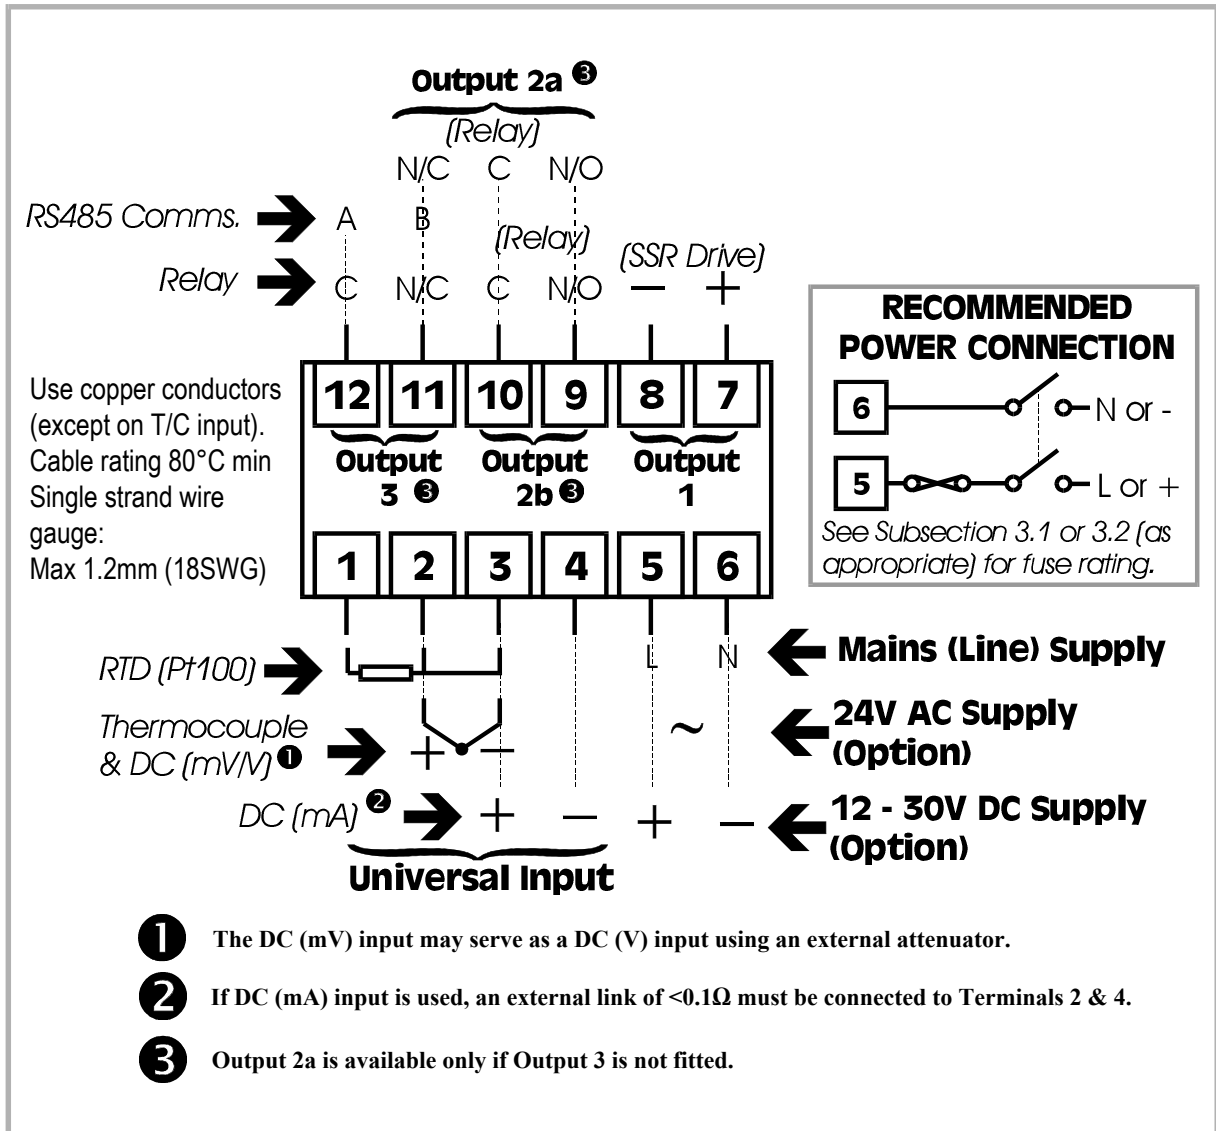

Figure 3-1 Rear Terminal Connections
CAUTION: This equipment is designed for installation in an enclosure which provides adequate protection against electric shock. Local regulations regarding electrical installation should be rigidly observed. Consideration should be given to prevention of access to the power terminations by unauthorised personnel. Power should be connected via a two-pole isolating switch (preferably situated near the Controller) and a 1A fuse, as shown in Figure 3-1.
This version operates on 12 - 24V AC 50/60Hz or 12 - 30V DC supply. The power consumption is approximately 4W. Connection should be made via a two-pole isolating switch and a 315mA slow-blow (anti-surge Type T) fuse (see Figure 3-1).
DC (mV) inputs are connected to Terminals 2 and 3 in the polarity shown in Figure 3-1; DC (V) inputs are connected to the same terminals with the same polarity but require an external attenuator. DC (mA) inputs are connected to Terminals 3 and 4 in the polarity shown in Figure 3-1 with Terminals 2 and 4 linked externally ($<0.1\Omega$).